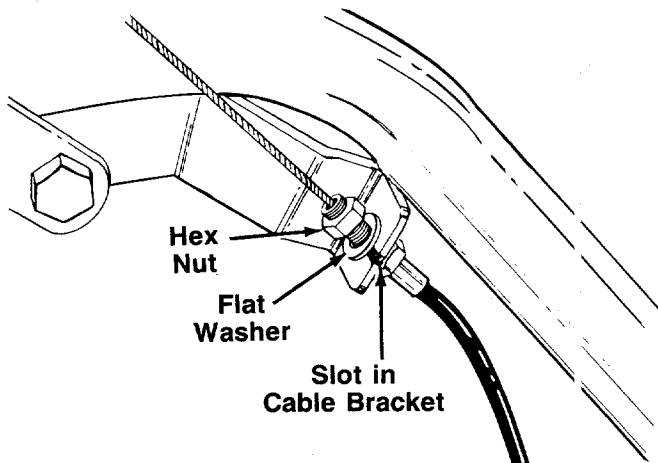

FIGURE 8.
- a. Remove one hex nut and flat washer from the end of the casing on the forward clutch cable. Slip the wire through the slot on the cable bracket on the left handle. Push the end of the casing up through the cable bracket. Rethread the hex nut on the end of the cable. Do not tighten at this time. See figure 8.